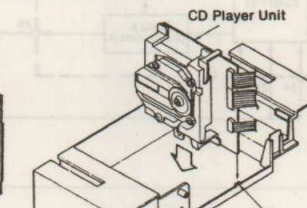

Fig. 11
5. Install the removed CD player perpendicular to the rib on the cabinet. (See Fig. 11)